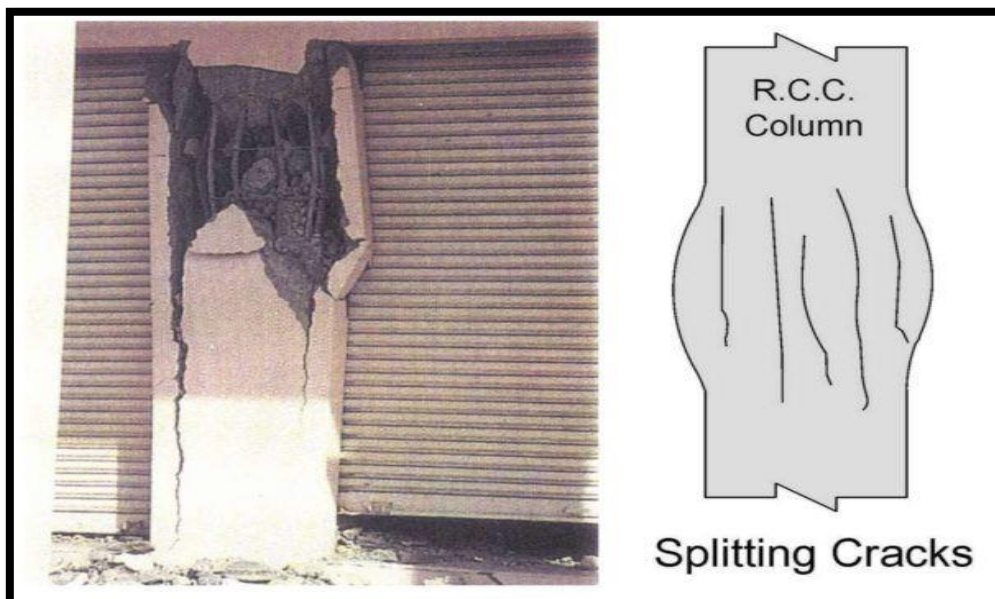

Figure 3: Splitting Crack In The Concrete Column ^[3]^[4]
- c) **Splitting Crack:** Splitting cracks at the concrete columns are short and parallel vertical cracks of varying width. These types of cracks can occur in columns with insufficient steel bar reinforcement and low concrete strength. Splitting crack happens as the load acting on it reaches its ultimate load-bearing capacity. In other words, this is a compression failure of the concrete column. An example of the splitting crack in the concrete column is shown in Figure 3.